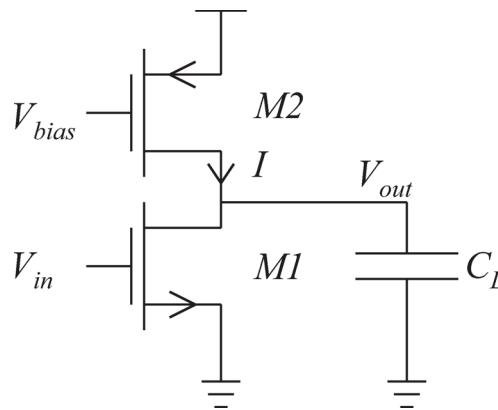

Figure 3. A common source amplifier.
The common source amplifier shown in Figure 3 can be designed to operate with the transistors operating either in saturation or subthreshold region. For a low power analog circuit, such the ones in hearing aids, the transistors are usually operated in the subthreshold region or weak inversion. The drain current of an NMOS transistor is given by
- Determine the output range of the amplifier shown in Figure 3 assuming that the transistors are biased to operate in the saturation region. Express this in relevant design parameters such as  $W$ ,  $L$ ,  $I_D$ , and  $V_{DS}$ .